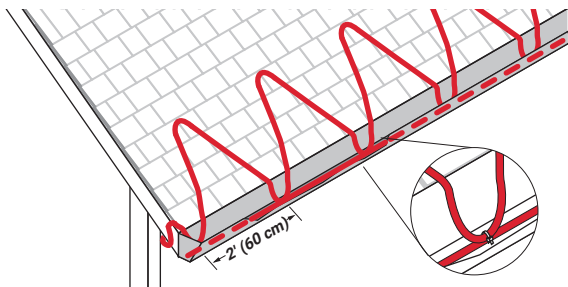

Figure 5: Layout in a zig-zag pattern
For sloped roofs, ice dams may form at the roof edge. To maintain a continuous path for melt water runoff, route the heating cable in a zig-zag pattern as shown in Figure 5 and follow the appropriate attachment recommendations in "Attachment Methods", page 29. Additional heating cable may be needed for other gutters, downspouts, and valleys.
- Install the heating cable on the roof in a zig-zag pattern as shown in Figure 5.
Important: Attachment methods are not shown in Figure 5. For attachment methods, proceed to “Attachment Methods”, page 29.